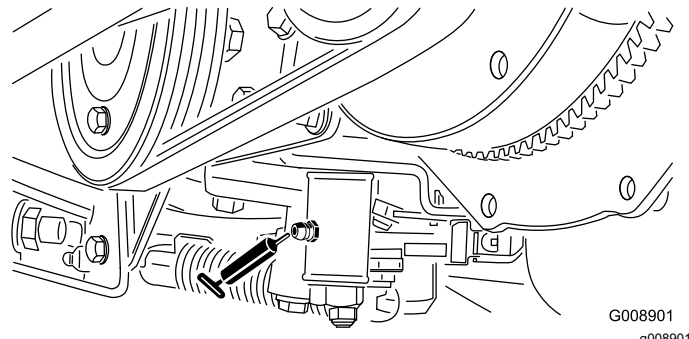

Figure 63
- Neutral adjust mechanism (Figure 63)